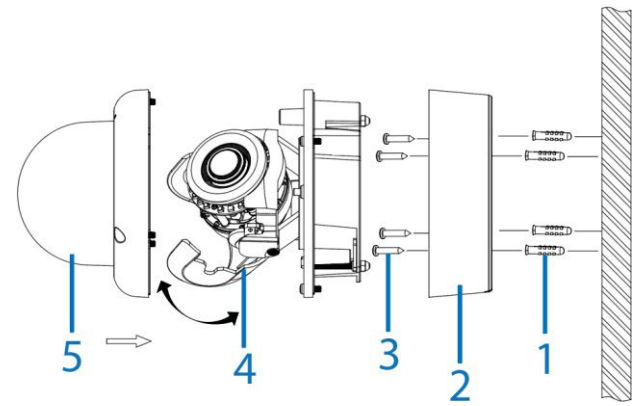

Figure 8
13. Hold the dome cover (5) (Figure 8) up to the camera and align the three screws in the dome cover with the three holes on the camera.